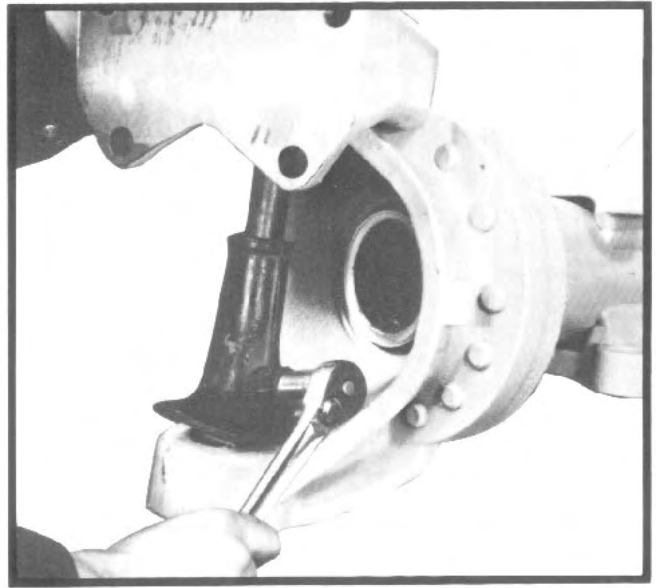

Fig. 17
4. Remove locknut from the bottom of the upper kingpin ball stud. Use a small jack to apply pressure to shank of ball stud and release the ball stud from the suspension yoke. If necessary, tap side of upper kingpin bracket with a rawhide mallet, using care not to damage bearing surface (See fig. 17).